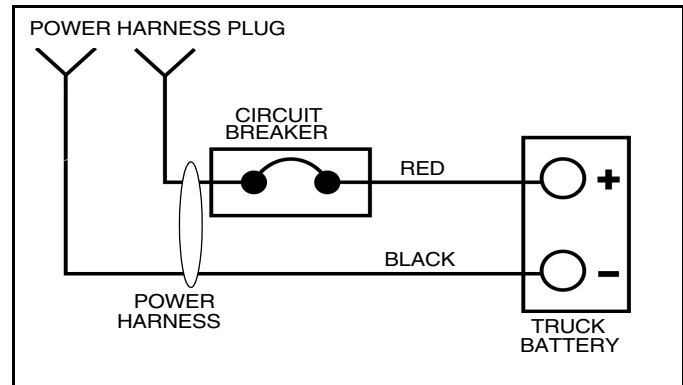

Figure 1-2
3. Attach the 2 ft. long power wire to the battery terminal of the circuit breaker and to the POS. (+) terminal of the battery. (See Figure 1-2).